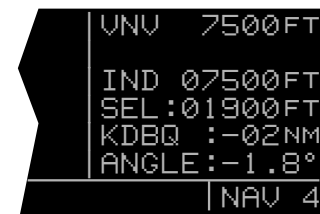

Figure 5-28
- When the countdown reaches 0:00, the time will be replaced with an advisory altitude (figure 5-28). Begin your rate of descent so that the altitude displayed on your altimeter matches the advisory altitude.